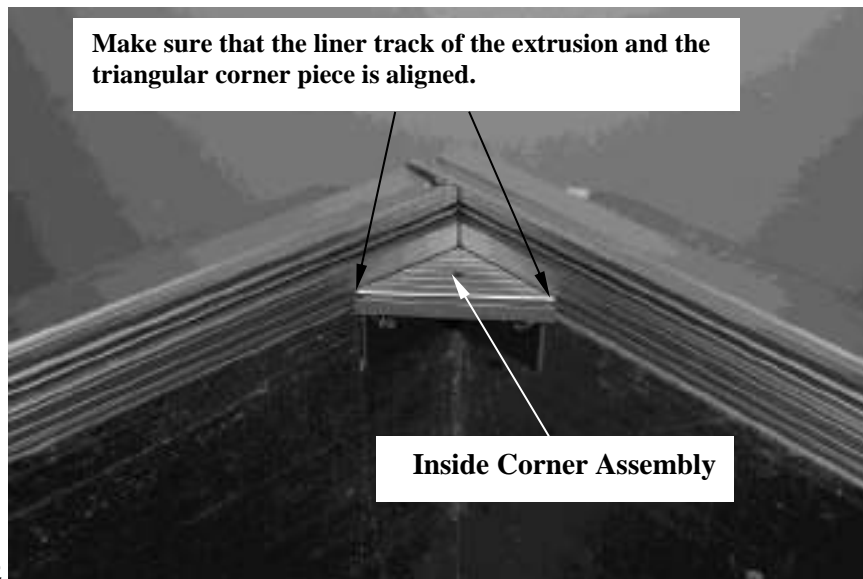

Fig 12
10. Install the inside corner assemblies in each of the four corners. Begin by placing the triangular liner hanger piece and corresponding plastic shim onto the galvanized corner. Place this assembly into the corner of the pool so that the triangular liner hanger piece aligns with the liner hanger of the coping. While holding this assembly at the correct height, attach the galvanized corner to the pool wall with the provided tek screws. Then use the selfdrilling countersink screws to attach the triangular liner hanger piece into the galvanized corner through the plastic shim. (Fig 12)